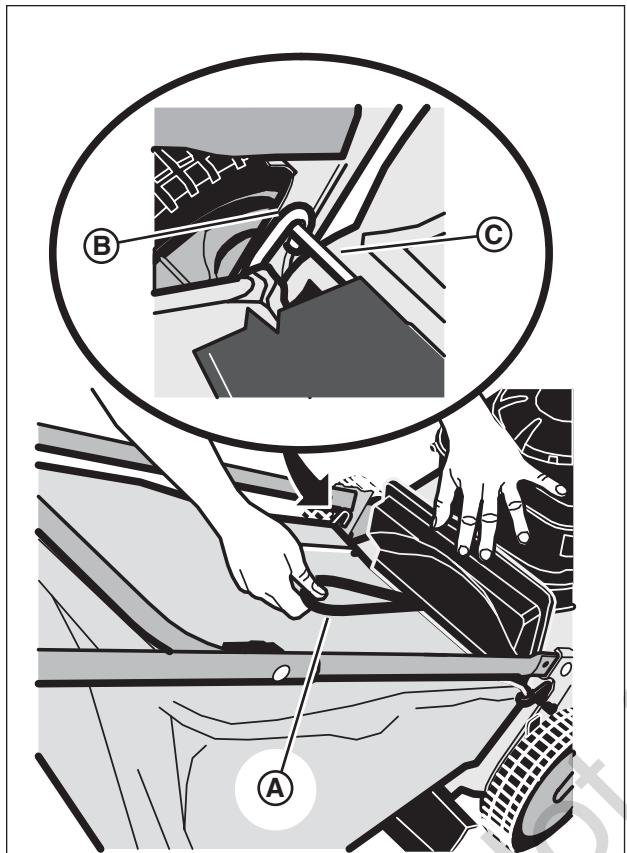

Figure 13: Installing the grass bag
3. Holding the grass bag handle (**A**, Figure 13), install the grass bag onto the mower, making sure that the grass bag hooks (**B**) are hooked onto the rear door pivot rod (**C**).